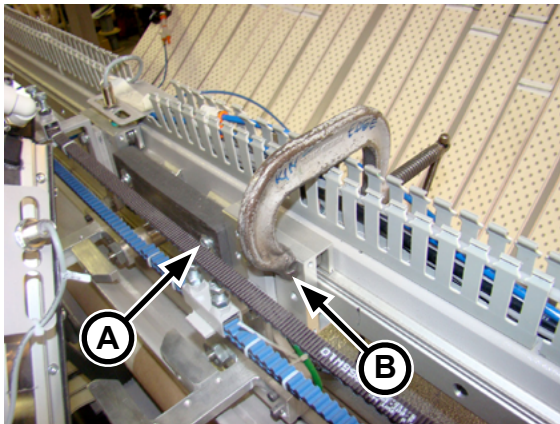

Figure 7-4: Make sure the spreader clamp carriage assemblies are firm against the center block.
2. Manually move the spreader clamp carriage assemblies toward the center of the machine until the rest firmly against the center block (Figure 7-4, A).
3. Use a C-clamp to secure each assembly in place against the block (Figure 7-4, B). Tighten the assembly against the guide rail. Use just enough pressure to prevent the assembly from moving during the following procedure.